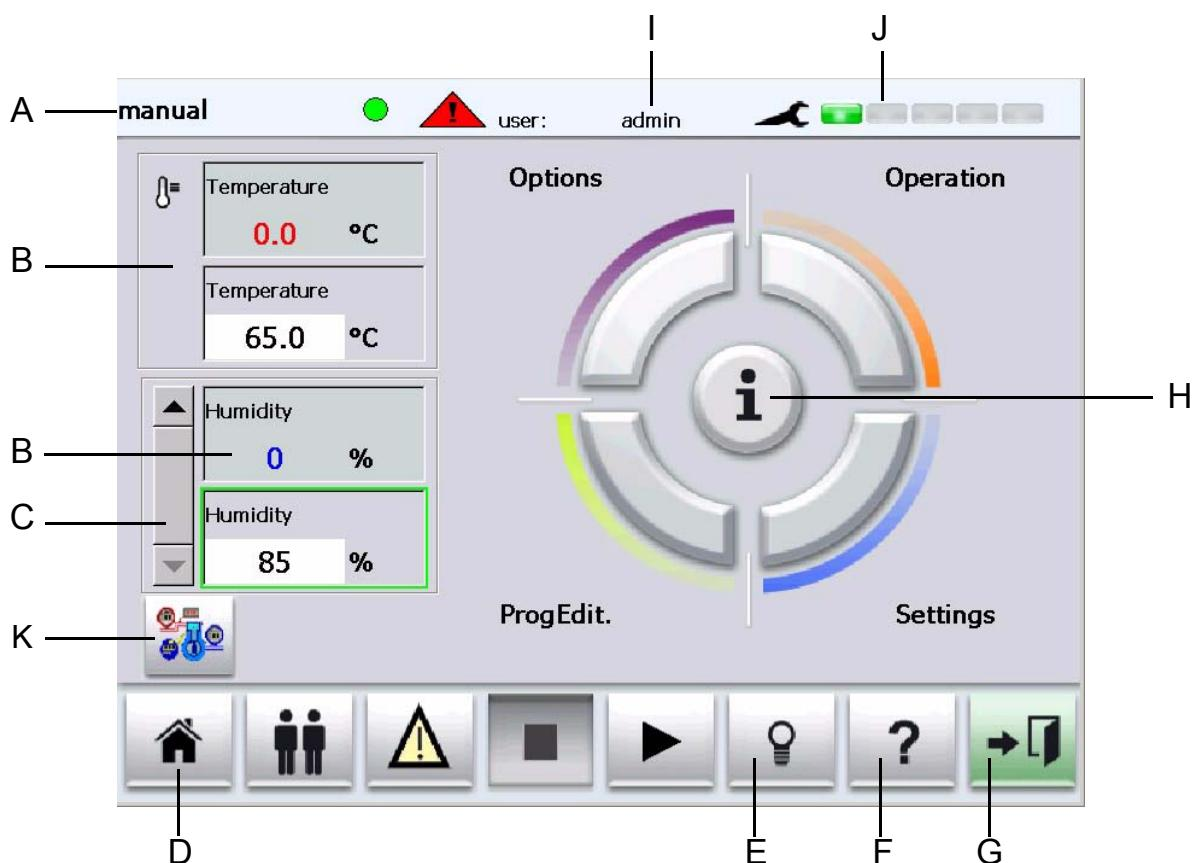

Fig. 2-1
- refer to Chapter 2.1 , Fig. 2-1 (page 5)
- refer to chapter 2.1 , Fig. 2-1 (page 5)